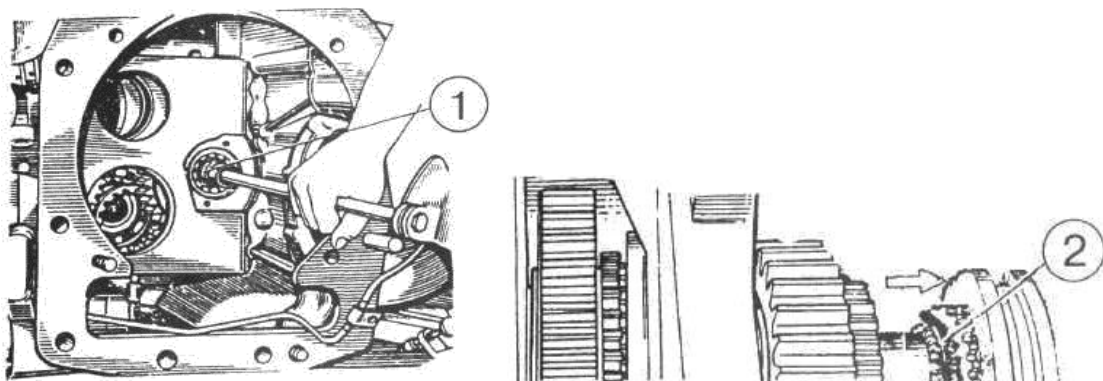

Figure 4.83
e) knock out shaft 1 (Figure 4.83) so that to remove locking ring 2;